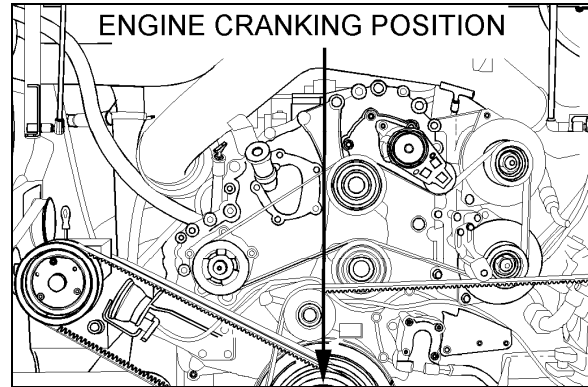

FIGURE 16: ENGINE CRANKING POSITION 01061
14. Remove the access plug from the flywheel housing on the R.H. side below starter. From access plug, remove the 12 converter-to-flexible plate attaching screws. Cranking the engine to gain access to the attaching screws may be done by turning the crankshaft pulley using a suitable adapter (fig. 16).